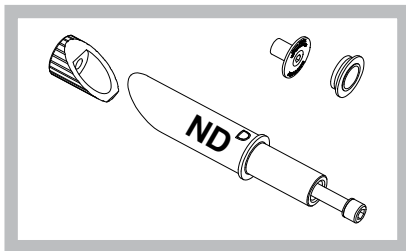

Figure 1
1. BTO010—Surly Trailer Non-Drive Side (ND) Stub Axle RH Thread with Fixing Bolt and wheel offset washer (Figure 1)